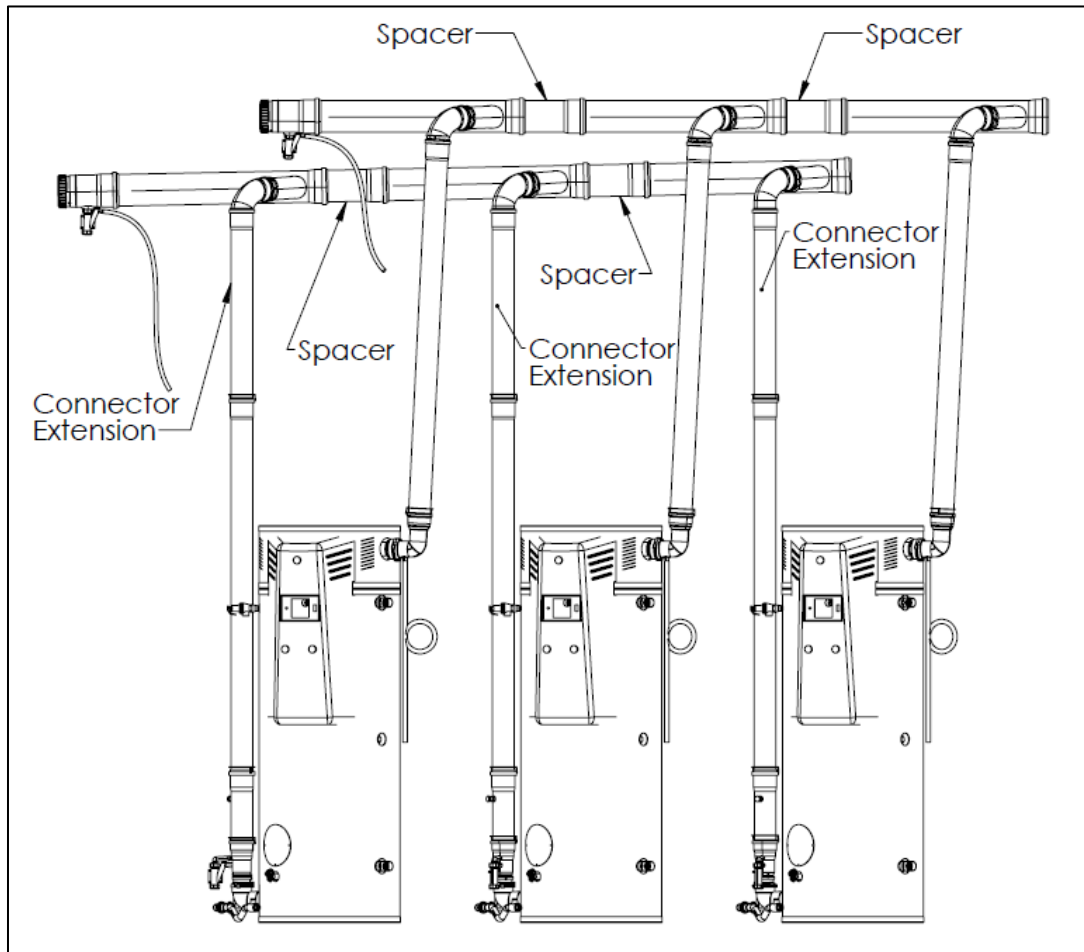

Figure 4: Optional manifold components - not included in kit
- If the heaters must be spaced farther than 41" apart, an additional 6" X 1' polypropylene piece (PN: 24262) will be needed to accommodate the increased distance. See the part identified as "spacer" in Figure 4.